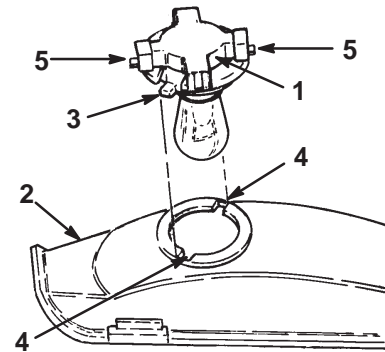

Figure 31
3. Rotate the bulb holder 1/4 turn counterclockwise and remove it from the reflector (Fig. 31).
2. The bulb holder has two tabs (Fig. 31). Align the tabs with the slots in the reflector, insert the bulb holder into the reflector, and rotate it 1/4 turn clockwise until it stops.